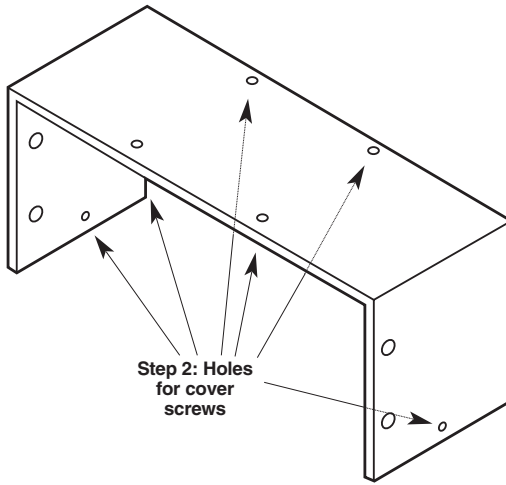

Figure F-1. The Switch's cover.
2. Unscrew and remove the six screws (four on top and one on each side) that fasten the wraparound top-and-side cover to the Switch. See Figure F-1 on the next page.